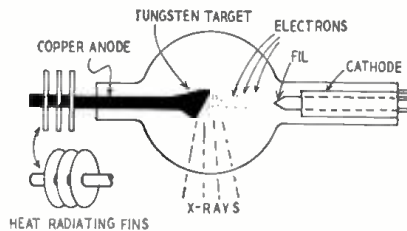

Fig. 1—High-velocity electrons strike anode.
**X**-RAYS are an invisible form of radiant energy of extremely short wavelength ( $0.125 \times 10^8$  to  $0.5 \times 10^8$  cm). They have the ability to penetrate many opaque materials. They are produced in an evacuated glass envelope by bombarding a positively charged, tungsten-plated, copper anode with a high-velocity stream of electrons emitted from a heated filament and negatively charged cathode (Fig. 1).